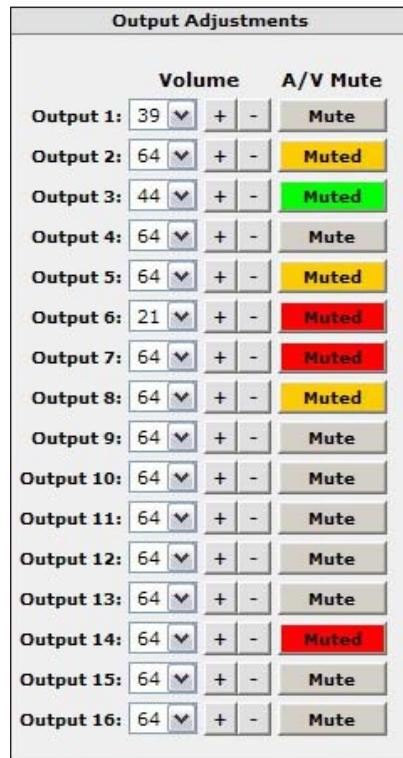

Figure 61. A/V Mute Button Status
2. In the Output Adjustment section, click **Mute** to mute the output. The button changes color according to the muted signal (see the **Note** below and figure 61), and changes to **Muted**. The page refreshes and the SMX updates with the selection.